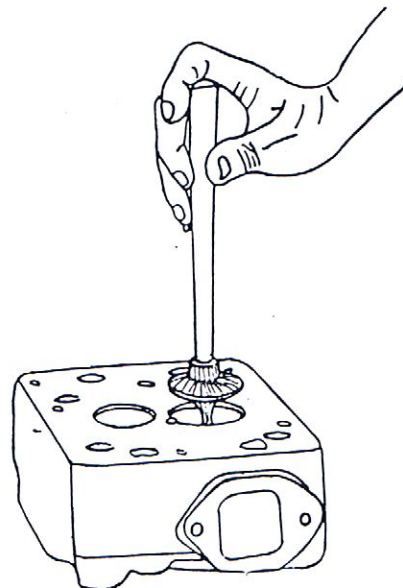

Fig. 25 Valve grinding tool in use
(1) Place the valve tool on one of the rocker arm pedestal studs and lightly secure it with a nut so that the central hole is over the spring plate of a valve.
(2) Press down sharply on the tool to compress the valve spring and free the collets.
(3) Release the tool; remove the spring plate and springs before tapping the valve stem through the guide with a block of wood.
(4) Carefully examine the valve seating. It should extend all the way around the circumference in the form of a dull, grey ring about 2mm wide. If the valve requires re-grinding, first clean it, the combustion face of the cylinder head and the valve guides to remove carbon and other deposits.
(5) Apply a little grinding paste to the valve seat, and, using the grinding tool supplied, rapidly twist the valve stem to and fro while pressing it lightly against the seating in the head. See Fig. 25. From time to time turn the valve to a new position and resume the to and fro motion.